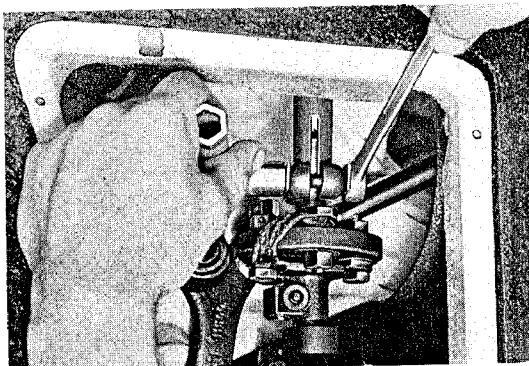

Fig. 74
3. Disconnect steering column at steering coupling (Unlock hex. hd. screw, unscrew and detach clamp from steering column (see fig. 74))